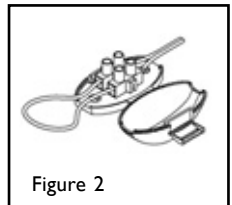

Figure 2
- Check whether the central unit can be started via the low voltage connector (figure 1; 7) of the central unit by closing the start circuit with a piece of metal wire (as shown in figure 2 depending on the central unit model).
- Locate the blockage by sucking strips of kitchen paper through the wall inlets. If the strips of paper end up in the dust canister, that stretch of the pipe system is clear. Once you have located the blockage, disconnect the central unit and check that there are no blockages in the coupling hoses. Then use the suction hose to connect the suction-side coupling hose to a wall inlet along the blocked stretch (or to the wall inlet closest to the blockage, if the blockage is in the frame pipe). Start the central unit (see figure 2/3 for starting the central unit with the help of a piece of metal wire), and go to where the central unit is usually mounted. Block and unblock the suction pipe opening with your hand to send vacuum shocks to the blocked pipe. If the blockage has not become dislodged within 10-15 seconds, disconnect the central unit from the wall inlet to allow the turbine to get some air in between and to stop it from overheating. Repeat the process after approximately one minute.